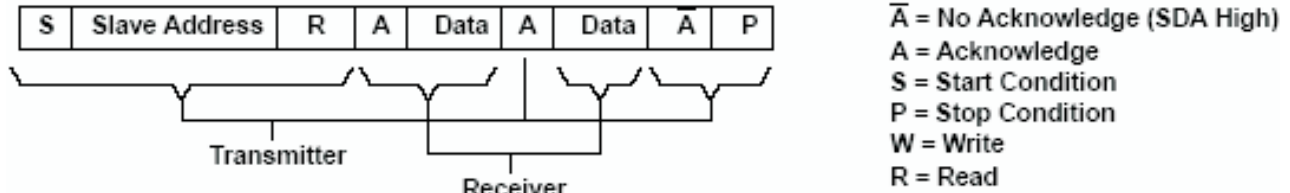
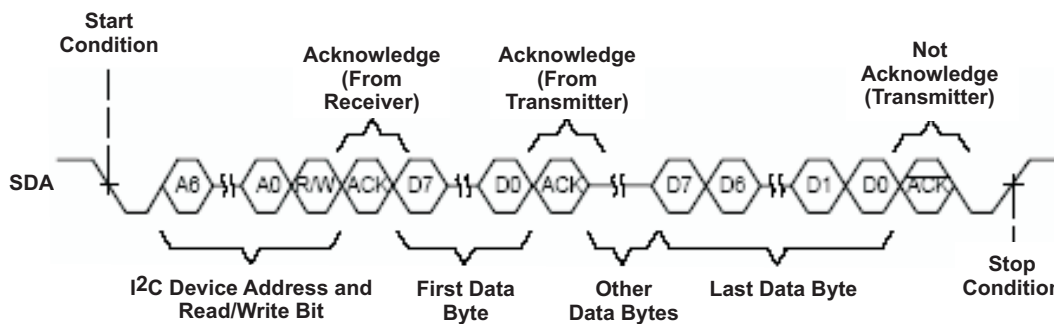

Figure 35. I2C Read Cycle
Figure 36. Multiple Byte Read Transfer
address. Following this initial acknowledge by the slave, the master device becomes a receiver and acknowledges data bytes sent by the slave. When the master has received all of the requested data bytes from the slave, the not acknowledge (A) condition is initiated by the master by keeping the SDA signal high just before it asserts the stop (P) condition. This sequence terminates a read cycle as shown in Figure 35 and Figure 36. See **Example – Reading from the SN75DP122A** section for more information.
The SN75DP122A operates using a multiple byte transfer protocol similar to Figure 36. The internal memory of the SN75DP122A contains the phrase *DP-HDMI ADAPTOR*<EOT> converted to ASCII characters. The internal memory address registers and the value of each can be found in Table 3.